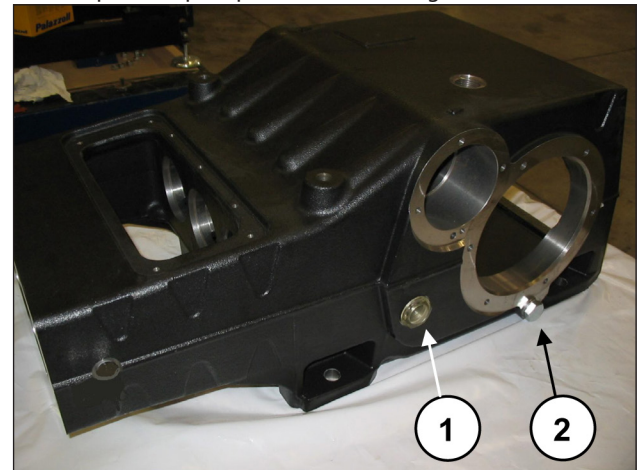

Fig. 47
Attach the two oil level indicators, the two oil drain plugs and the 90° quick coupler (pos. ①, ② and ③ Fig. 47).